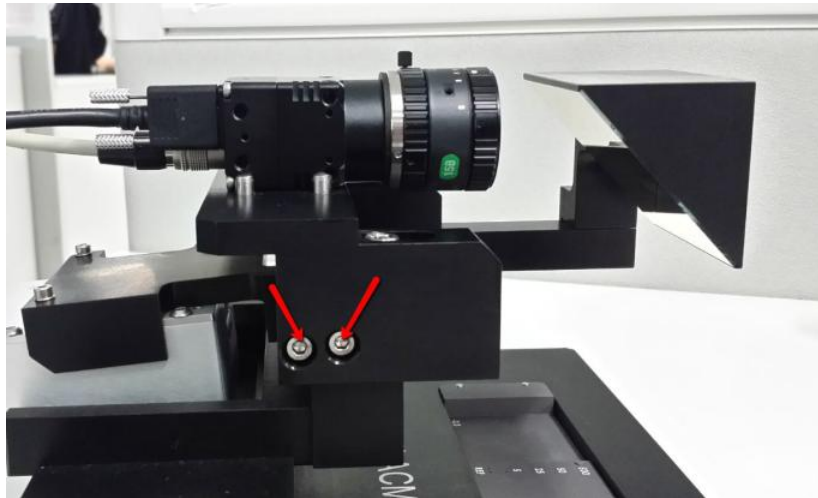

Figure 37 Projector Module Side Screws
36. Loosen 2 x Side Screws of Projector Module as below Figure 37.